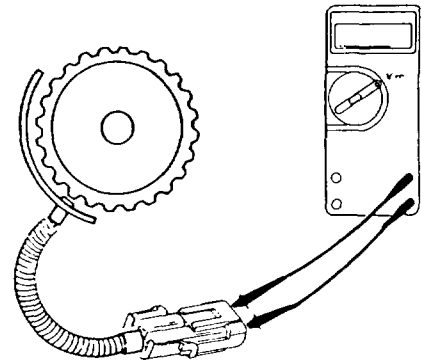

FIG. 11
**Correction:** With engine running, measure AC voltage signal between 500-800 RPM and record reading (Fig. 11). Above 1000 RPM, the VAC should be greater. If it is not, replace the sending unit.